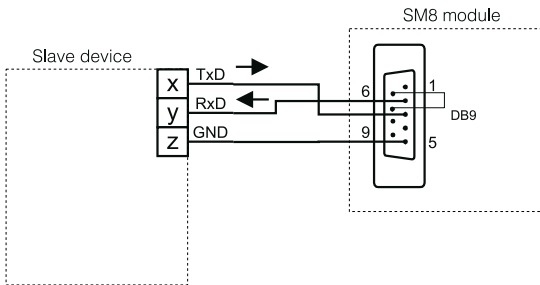

Fig. 4 Connection way of RS-232 interface
The connection way of the RS-232 interface is presented on the fig. 4. On must take note of the necessity to short DSR (6) and RTS (7) pins in the DB9 plug.